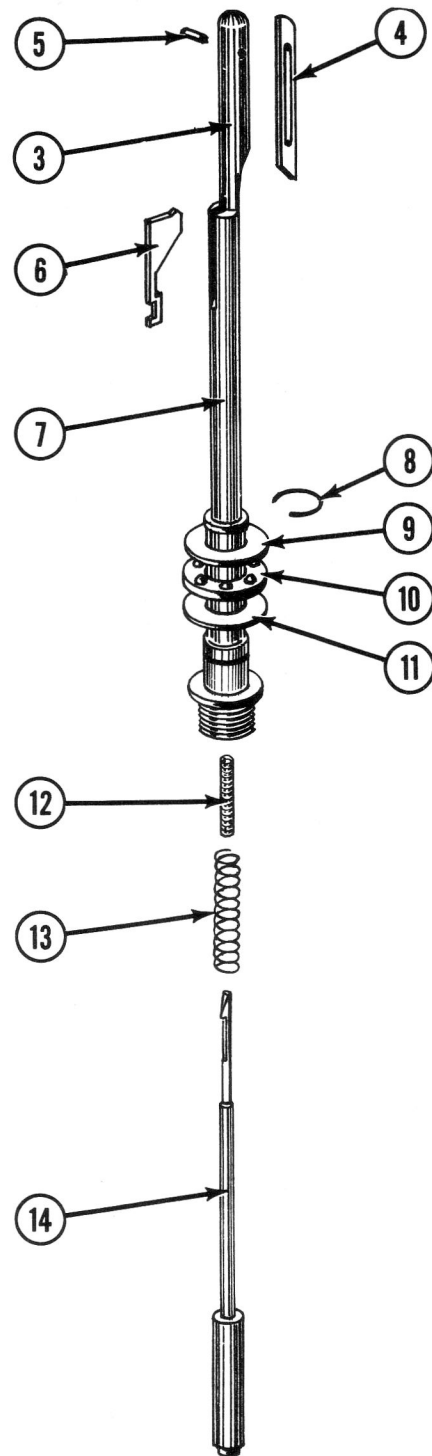

Figure 5
The front edge of the ejector link slot in the slide and cam assembly (120) then contacts the ejector link on the ejector link assembly (117). The ejector link moves the pusher shaft and housing assembly (14) upward actuating the spindle assembly (3), causing the record pusher (6) to move straight up so as to enter the center hole of the record, and then to be pivoted forward, dropping a record to the turntable. (See Figure 5.)